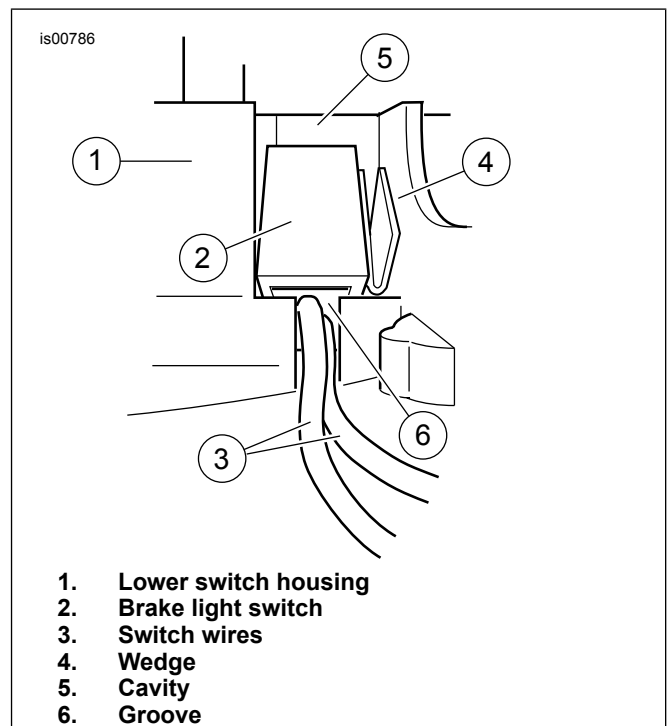

Figure 5. Brake Light Switch
4. See Figure 5. To remove the brake light switch (2) and wedge (4):
- a. Gently pry out wedge located between switch housing (1) and brake light switch (2). Save the wedge for assembly.
1. See Figure 5. Place brake light switch (2) and wedge (4) into chrome lower switch housing (1). Place a small bead of silicone sealant into the wedge.
2. Place turn signal switch assembly and bracket into housing cavity (5). Align hole in bracket with threaded hole in boss.
5. See Figure 5. Install brake light switch (2) and wedge (4): Carefully press plunger against inside wall of the switch housing. With thumb over plunger bore, move switch into the installed position in the switch housing cavity (5). When plunger is positioned against thumb, slowly rotate switch downward while rocking slightly. Release the plunger only after switch is properly positioned in the cavity. Verify that the plunger is square in the bore and that the boot is not compressed, collapsed or torn. If necessary, gently move the plunger in and out until boot is fully extended.